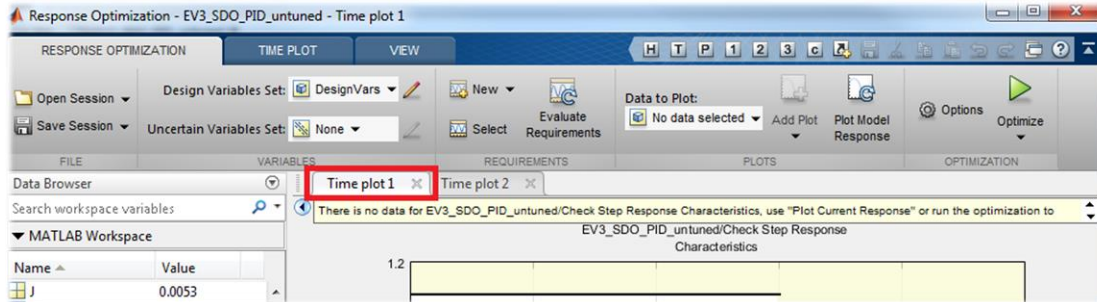

Figure 49 – Choose time plot
4. Click on the 'Time plot 1' tab to choose the step response characteristics to view. This is shown in Figure 49.